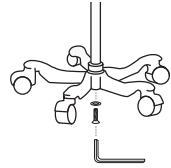

Figure 1
Remove BATTERY COMPARTMENT COVER by loosening and removing the screw. (Fig. 1)
1. Securely attach wall bracket to flat surface using enclosed mollys and screws at desired height. *(It is advised to use a level to ensure proper mounting).* (Figure 1)
1. With base on its side connect upright outer pole to base using large (6mm) allen bolt. Tighten with large (6mm) allen key provided. Tighten hardware as securely as possible. (Note: To prevent loosening, hardware must be tightened securely and periodically checked) (Figure 1).
1. Squeeze the middle of the plastic air connector on the end of coiled tubing between thumb and forefinger, and insert into the air connection port on the face of the e-sphyg 2™. Make sure connector firmly “lock” snaps into the port (Figure 1).